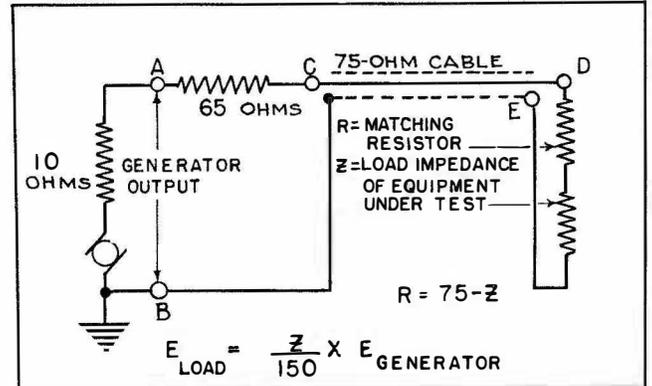
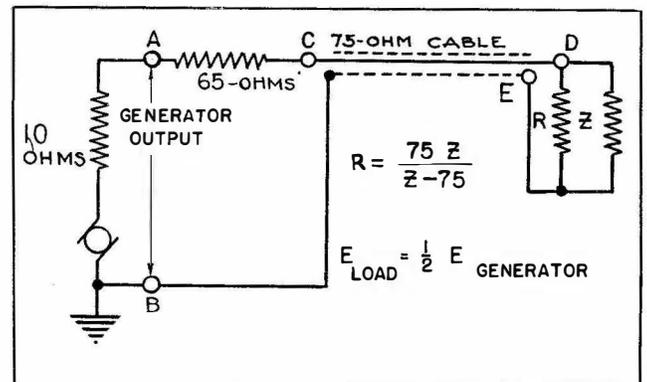
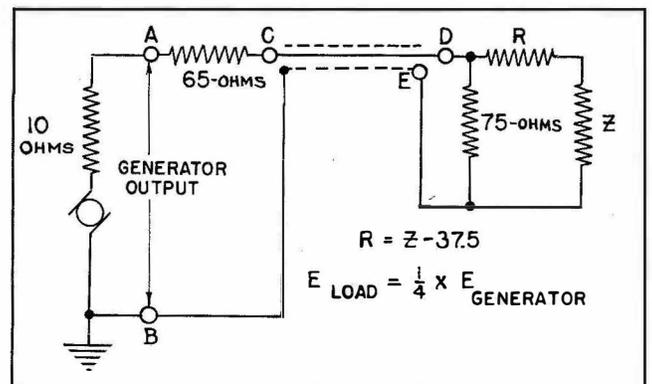

Figure 4-12—Method of Matching Cable to Receiver Having Lower Input Impedance than Cable
Figure 4-13—Method of Matching Cable to Receiver Having Higher Input Impedance than Cable
Figure 4-14—Method of Matching Cable to Receiver Having Very High Input Impedance
with non-inductive carbon resistors with very short leads) to 75 ohms. This can be done by placing the proper resistor in series with the load if less than 75 ohms (see Fig. 4-12) or placing the proper resistor in parallel with the load if more than 75 ohms. (See Fig. 4-13.) For the paralleled connection, the voltage across the load will be $\frac{1}{2}$ the open circuit voltage across AB. For the series connection the voltage appearing across the load can be calculated as shown by the formula given in Figure 4-12. For the parallel connection the voltage may be calculated from the formula given in Figure 4-13.
i. The circuit shown in Fig. 4-13 is not desirable if the load impedance is considerably higher than 75 ohms since the shunting (matching) resistor may change the characteristics of the input circuit to which the cable is connected. The best method of matching is by means of a T-pad which will develop $\frac{1}{4}$ the open circuit voltage across the load (see Fig. 4-14).